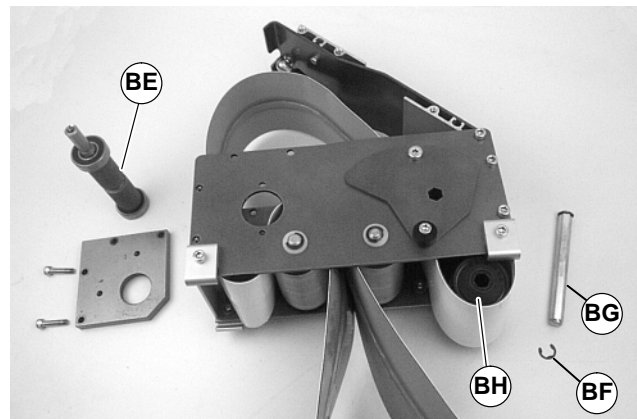

Figure 28
2. Remove drive pulley (BE of Figure 28).
- For 2" (44 mm), 3" (70 mm) or 4" (95 mm) wide conveyor, detach E-ring clip (BF of Figure 28). Remove pulley shaft (BG) and remove pulley (BH).